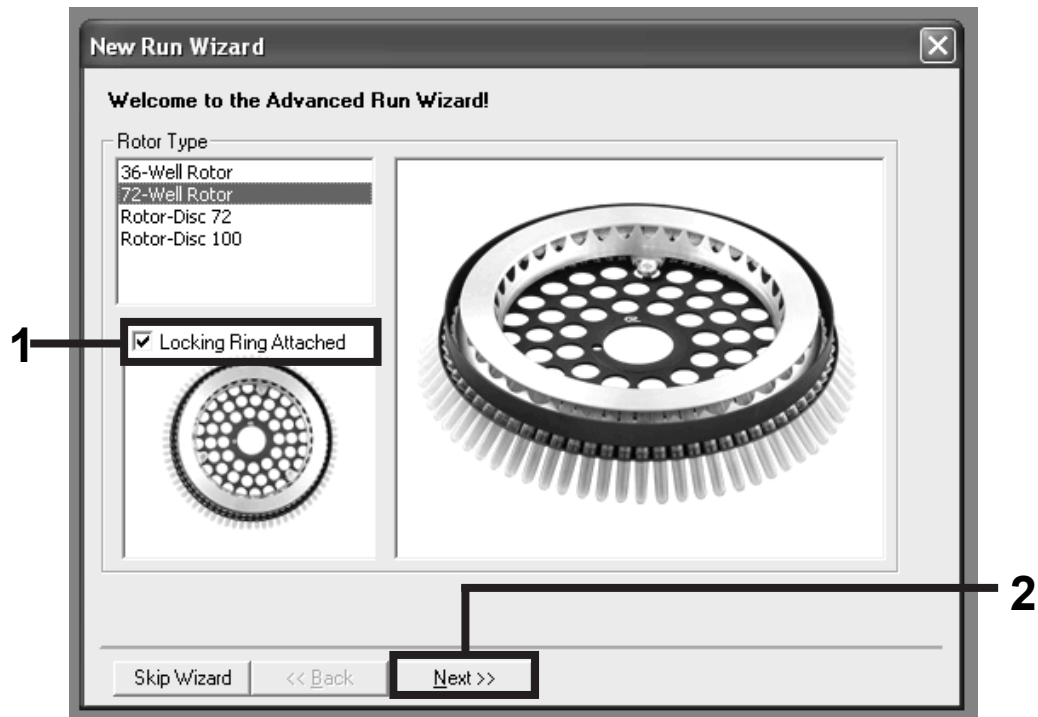

Figure 1. The “New Run Wizard” dialog box.
Setting the general assay parameters	Figures 1, 2, 3
6. First, open the “New Run Wizard” dialog box (Figure 1). Check the “Locking Ring Attached” box and click “Next”.